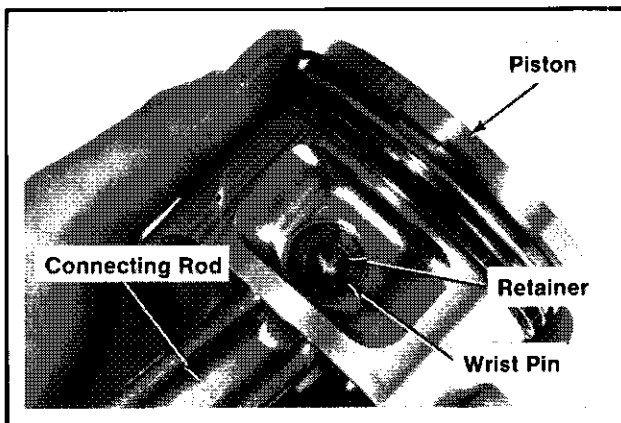

Figure 12A-14. Installing Piston to Connecting Rod (Style "D" Piston Shown).
- Install wrist pin and retainers. Refer to Figure 12A-14.